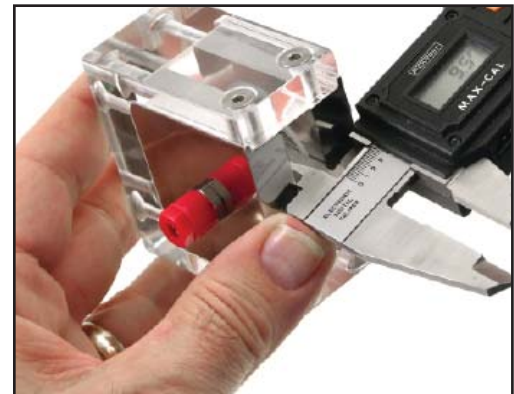

Figure 9: Measuring the Distance **d** between Plates
Where π is approximately 3.1416 and **r** is the radius of the center plate, which is one-half the plate diameter. The distance **d** between plates is measured with a micrometer (Figure 9) after the fixture is reassembled. The measurement is made at the center point of the measurement plates, midway between the acrylic frame vertical supports.
1. Measure the distance *d* between the power plate and measurement plate as shown in Figure 9. Assume the measurement is 0.95 cm